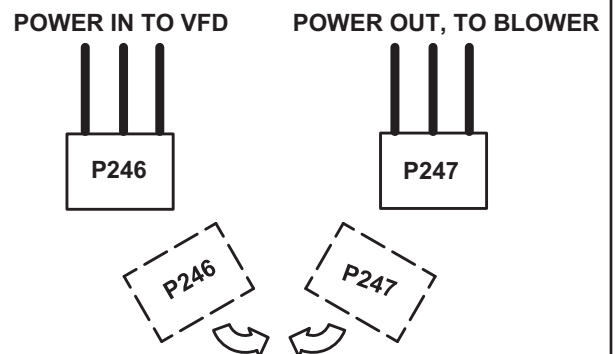

FIGURE 39
- 4 - Connect P246 to P247. See FIGURE 39.